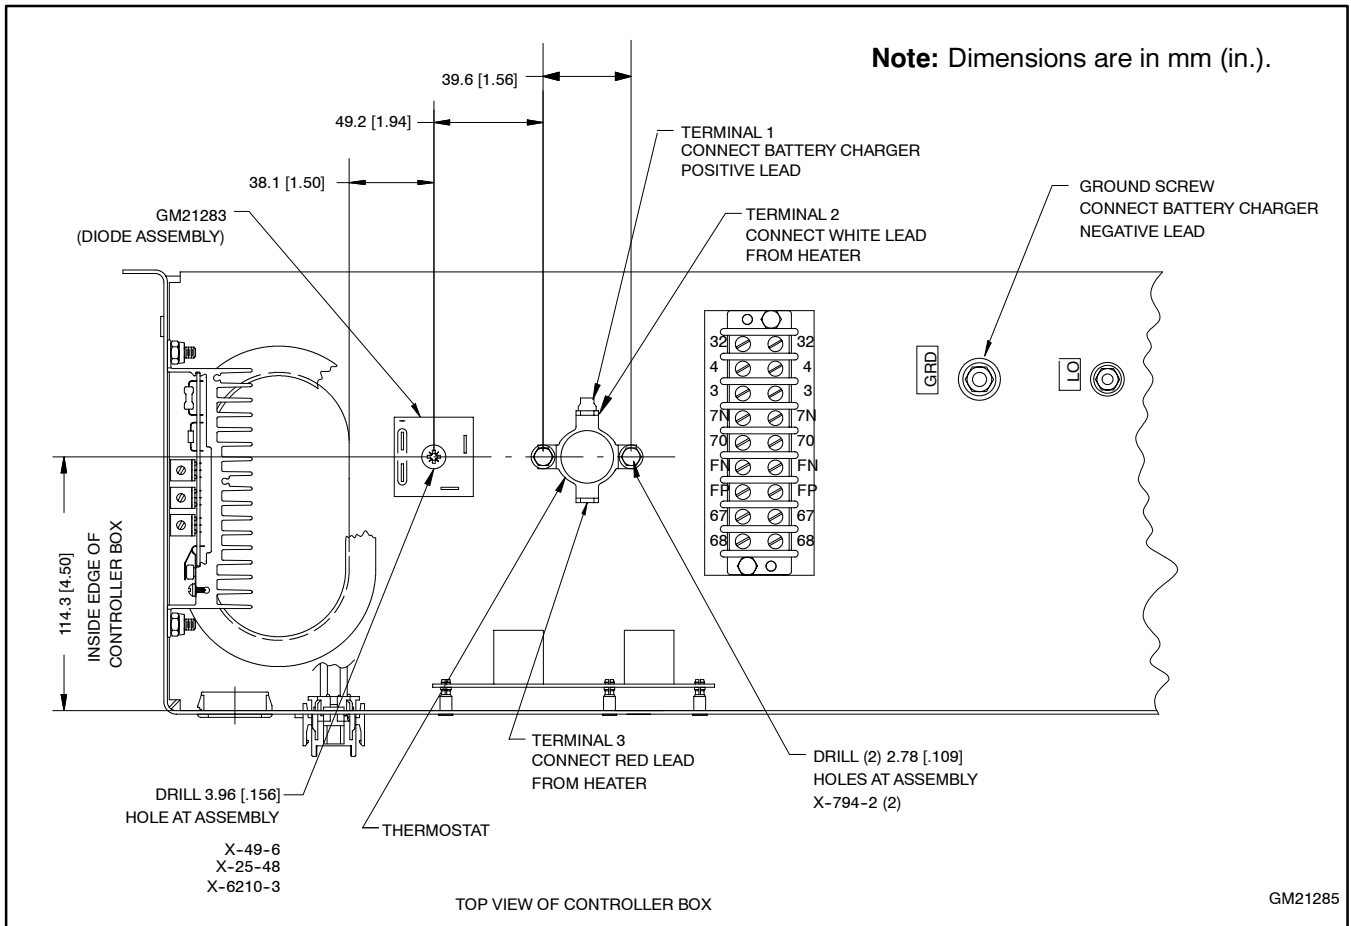

Figure 17 Recommended Thermostat and Diode Mounting Locations Inside the Controller Box
2. Mark and drill one 3.96 mm (0.156 in.) hole for the diode (if required) and two 2.78 mm (0.109 in.) holes in the bottom of the controller box at the locations shown in Figure 17. Use a dry brush or a vacuum cleaner to remove metal chips and dust from inside the controller box after drilling.
Note: The hole locations shown in Figure 17 are recommendations. Adjust the thermostat and diode locations inside the control housing to avoid interference with accessory leads connected to the terminal strip, if necessary. Verify that the heater leads are long enough to reach the thermostat and diode before drilling the holes.